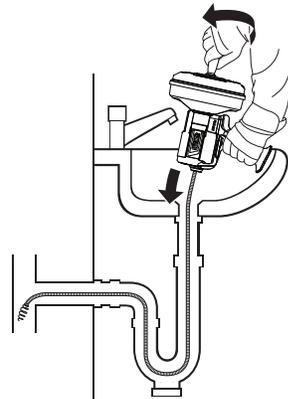
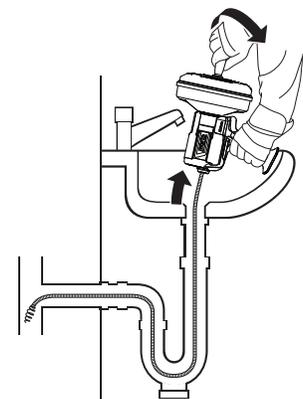

Figure 6 – Advance Cable
Figure 7 – Retract Cable
4. Turning drum clockwise advances cable, Figure 6. Counter-clockwise retracts cable, Figure 7. Cable can also be advanced/retracted by hand. Advance cable until you encounter the blockage.
8. Retract cable (Figure 7). Pay attention to the cable during retrieval as the cable end can still become stuck.